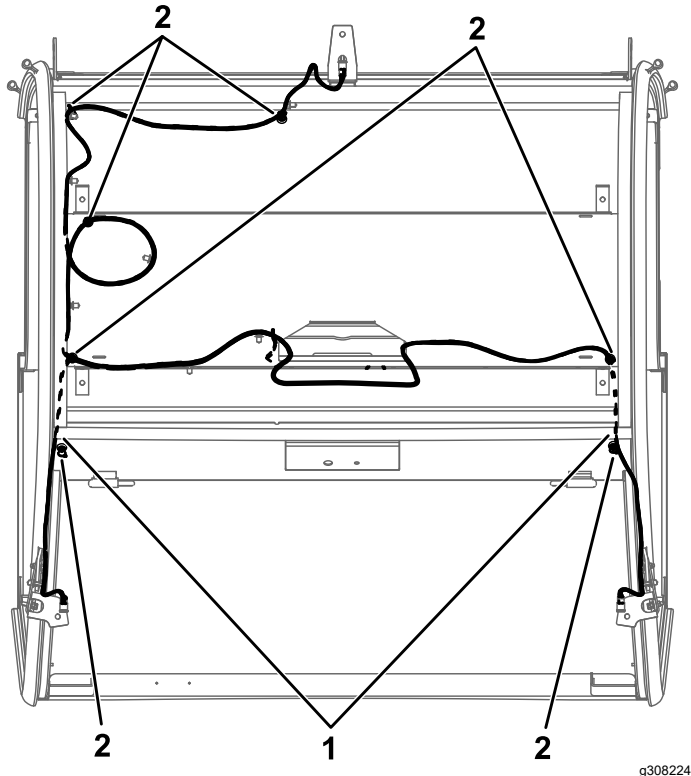

Figure 11
1. Install the wire harness as shown in Figure 11.
Note: Slit the foam at the locations shown in Figure 11 to route the harness.
2. Secure the wire harness to the machine using the tie clips in the extension plates and using 7 magnet tie wraps in the locations shown in Figure 11.